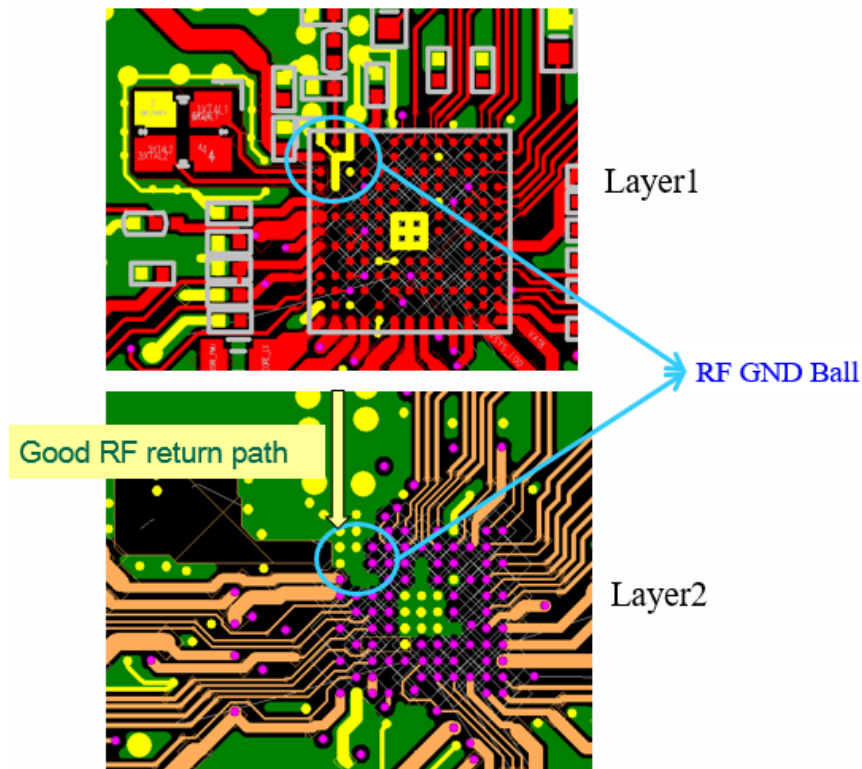

Figure 4. Gnd Via around RF trace and return RF trace of the AB1585/AB1588 EVK daughter board
- Make sure the return path is solid and good, and the reference layer should be checked also. Refer Figure 4 for more information.